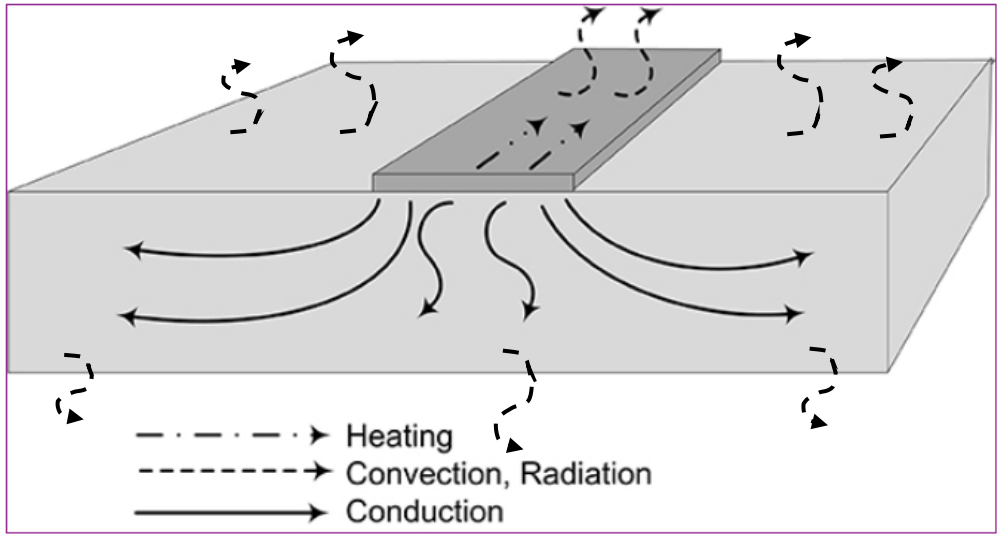

Figure 2: Heat dissipation from a trace [2]
- Heat spreading (heat conduction) in the traces and within the circuit board into cooler areas (Fig.2)